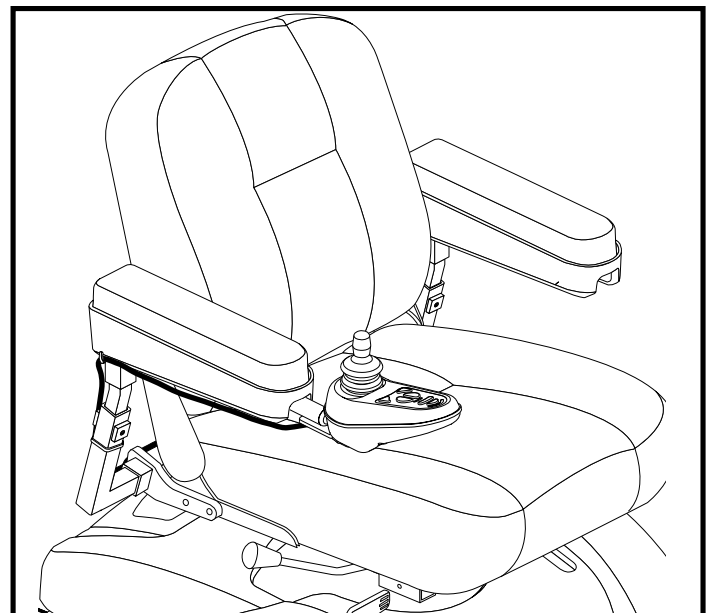

Figure 11. Cable Routing
3. Install the controller and route the cable to the rear of the power base. See figure 11.